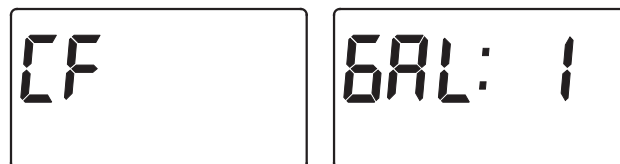

FIG. 41
4. **CHEMICAL FEEDER TRIP VOLUME:** If you have set the auxiliary output control to CF (Chemical Feeder), you will need to set the volume of water which must flow past the turbine* before the auxiliary output is turned on. With the alternating screens in Fig. 41 shown, use the ▲ UP or ▼ DOWN buttons to set the trip volume, in gallons. Then press the SELECT button to display the screen shown in Fig. 42.